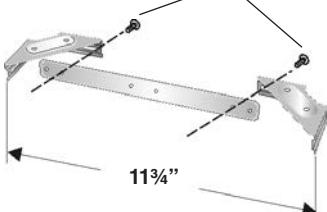

FIG. 8
1. Assemble the flue mounting bracket, adjusting outside width as shown. Fig. 8.